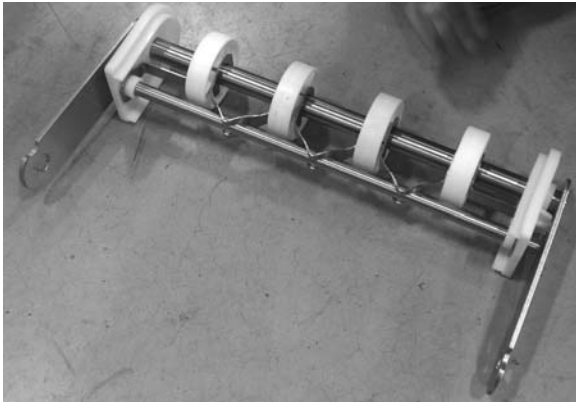

Figure 67
4. Place entire assembly on work surface (**Figure 67**).